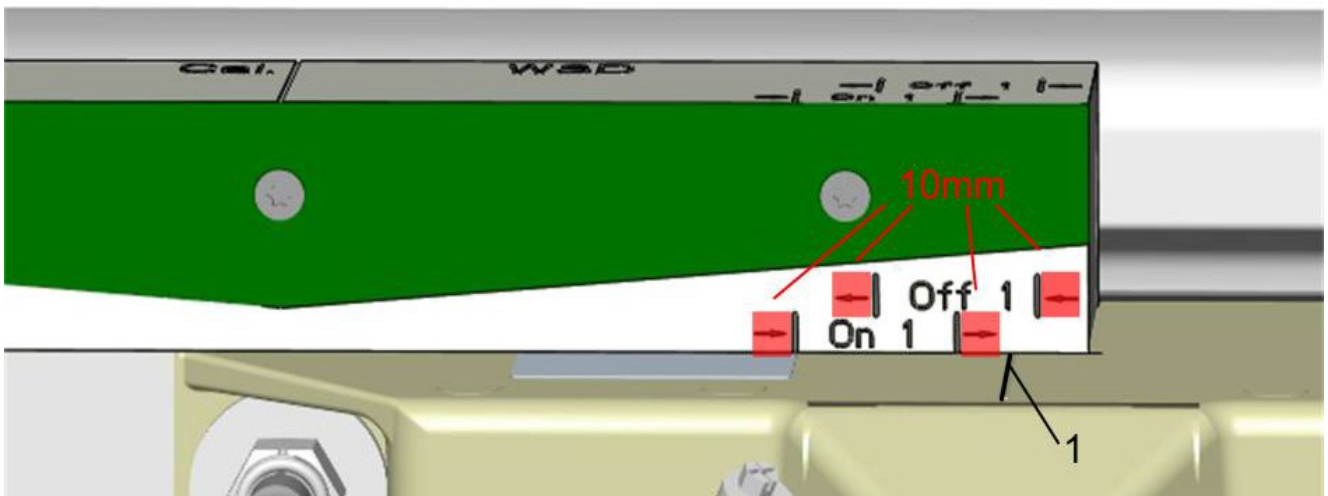

Figure 3 – Continued movement of the adjustment gauge towards A
- 1.5 Continue to move the adjustment gauge in direction A (see figure 3) until the measured current rises to a value between 4.75 mA and 5.25 mA. Then check whether the centre marking (1) on the wheel detector is between the "Off 1" markings on the adjustment gauge. A tolerance of 10 mm on both sides of the "Off 1" markings is permissible (see figure 3). Record the result of the test on the Wheel Detector Record Card.